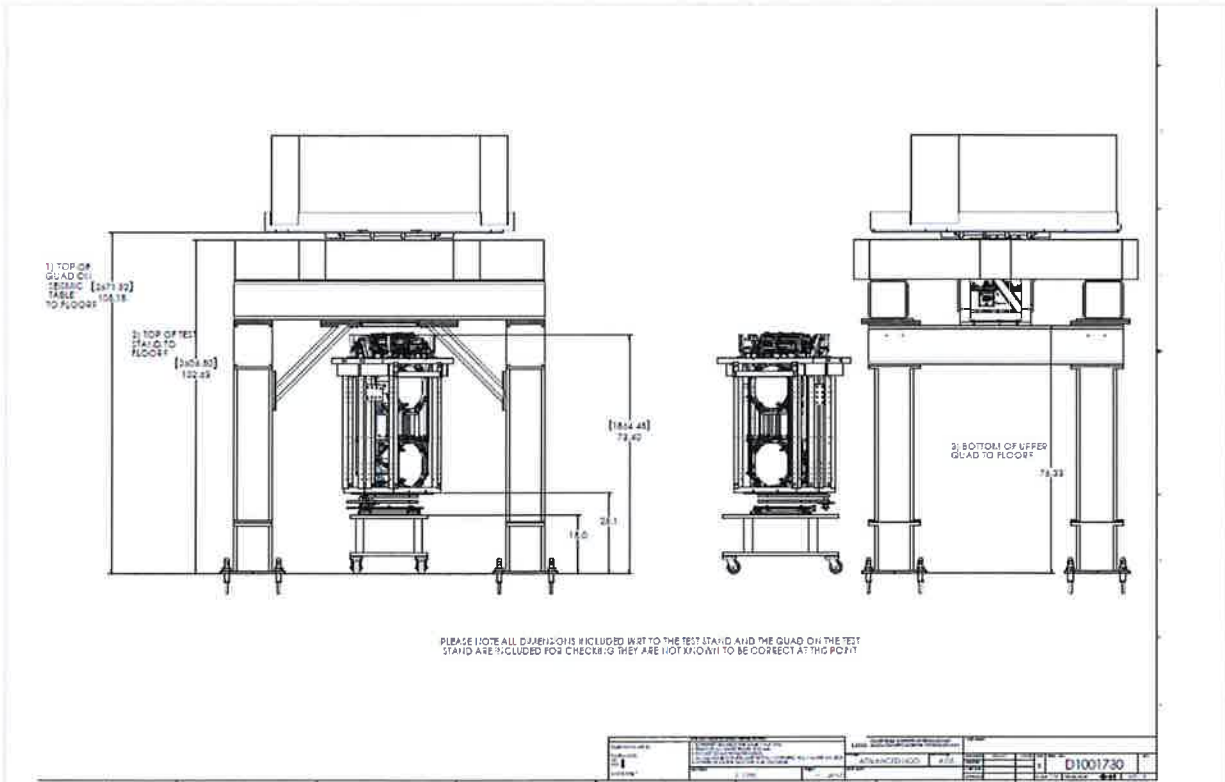
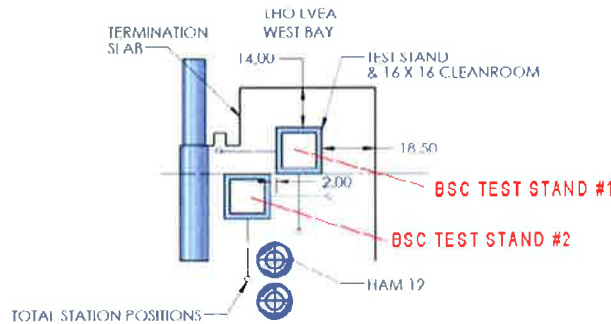

Figure 6 Sketch of the Test Stand with respect to the FMP tooling. Refer to D1001730: Sketch of Test Stand with respect to the FMP cartridge tooling
Figure 5. **Figure Name?**
- The “cartridge assembly” (payload elements on the optics table and stage 0 of the BSC-ISI) is assembled on the test stand. See figure 5 and figure 6.
Figure 5 LBSC3 top-level assembly, bottom view looking up. Refer to D0900492: aLIGO Systems, BSC3-L1 Top Level Chamber Assembly (No Arm Cavity baffle as view is of test stand configuration.)